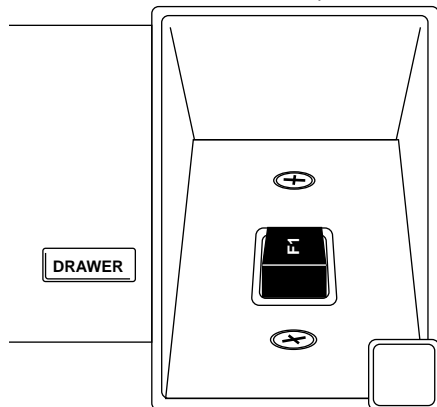
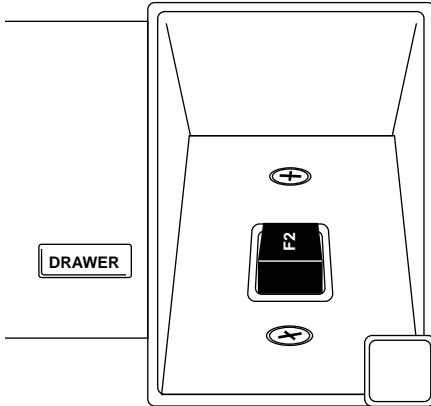

Figure 2-2: The F1 cuvette in the cuvette port
Figure 2-3: The F2 cuvette in the cuvette port
Cuvettes **F1** through **F4** must be inserted so that the writing on top of the standard faces the microplate drawer, such that the glass filter is closer to the right side. See Figure 2-2: The F1 cuvette in the cuvette port on page 11 and Figure 2-3: The F2 cuvette in the cuvette port on page 12.
4. Place cuvette standard F1 in the cuvette port, aligning it so that the writing on top of the standard faces the microplate drawer. See Figure 2-2.
4. Place cuvette standard F2 in the cuvette port, aligning it so that the writing on top of the standard faces the microplate drawer. See Figure 2-3.